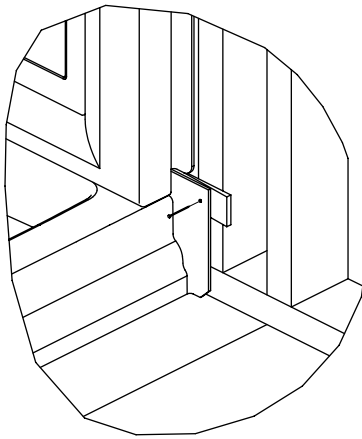

Figure 1
- Tack the corners of the receptor into place using #6 large-head galvanized nails (not supplied) to fasten the unit. (Figure 1)
- Fasten the walls into place using #6 large-head galvanized nails. Start from the outside edge and work around each wall toward the corner. Make sure the bottom of the walls do not raise up off the receptor. (Figure 1)